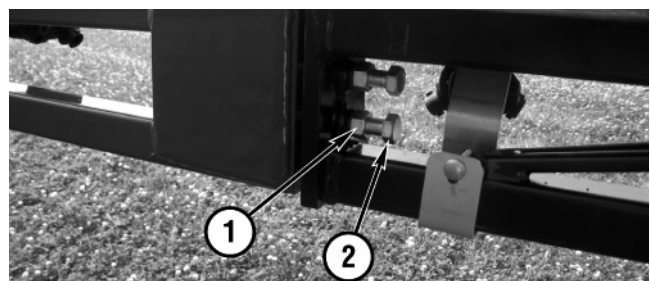

Figure 5-3
Each left and right boom is equipped with one or two boom breakaways depending on boom configuration. A right, outer boom tip breakaway is shown in **Figure 5-3**.
1. Loosen the jam nut (**Figure 5-3, 1**) and turn the adjusting screw (**Figure 5-3, 2**) to align the booms.